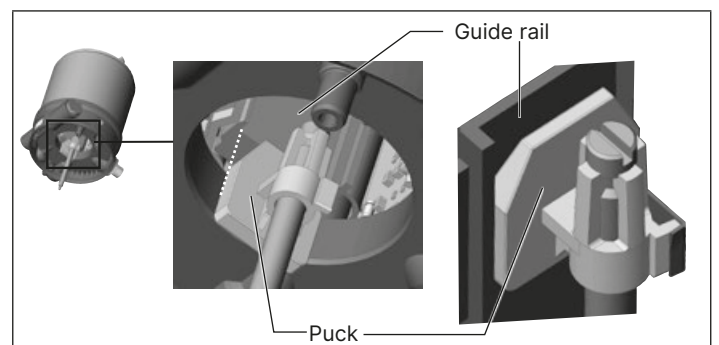

Fig. 4: Aligning the puck
2. the connection pieces of the Remote Sensor engage in the pilot air ports of the actuator (see Fig. 4)